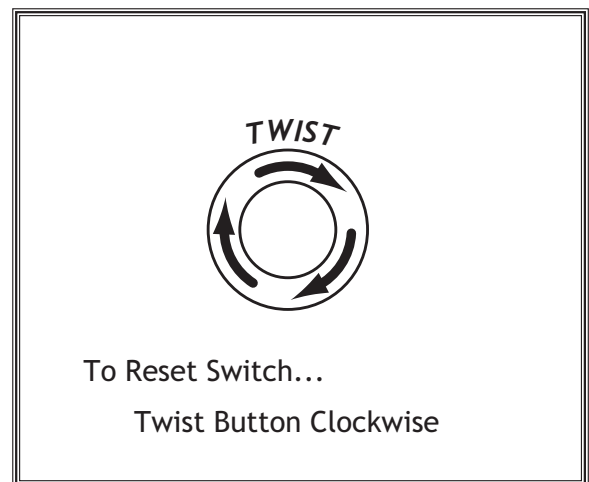

Figure 11. Resetting the switch.
4. Push the STOP button in, then twist it clockwise so it pops out. When the STOP button pops out, the switch is reset and ready for operation (see **Figure 11**).